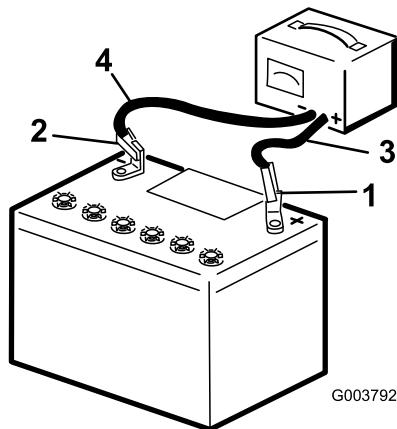

Figure 1
2. Connect a charger to the battery (Figure 1) and charge it for a minimum of 1 hour at 6 to 10 amps. Do not overcharge the battery.
3. When the battery is fully charged, unplug the charger from the electrical outlet, then disconnect the charger leads from the battery posts (Figure 1).